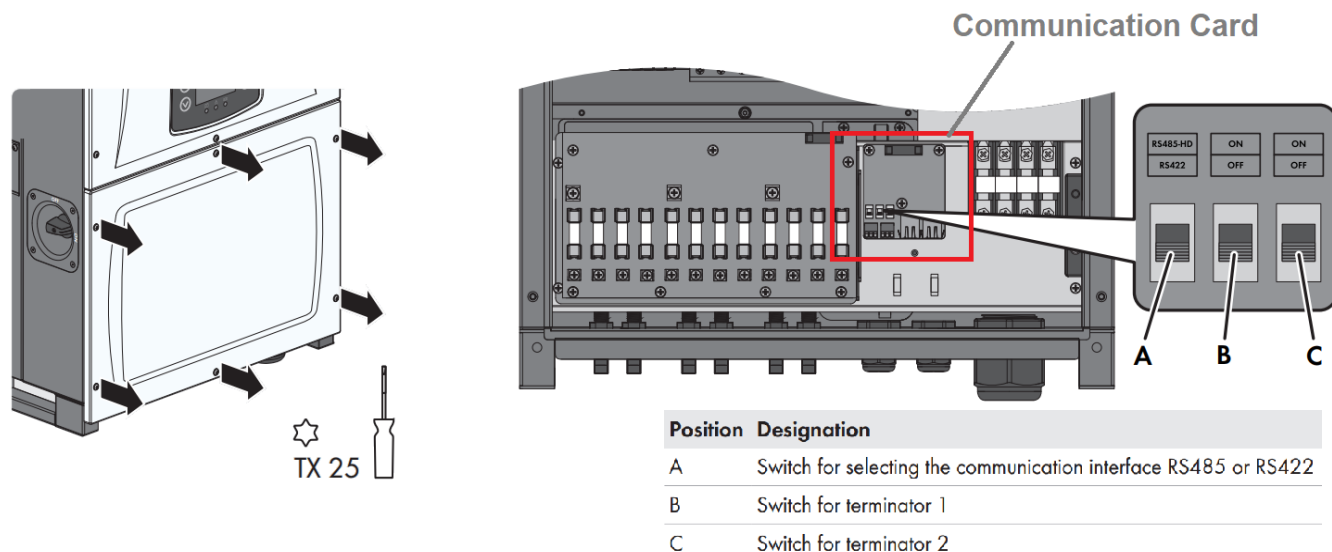

Figure S1 –SMA String Inverter Communication board
- 2) Locate the communication card as shown in Figure S1